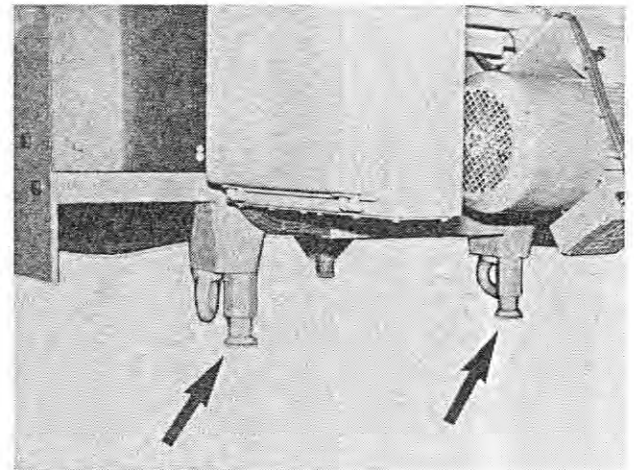

Fig. 23
1. Level the machine by adjusting the machine supports (Figure 23/arrows).